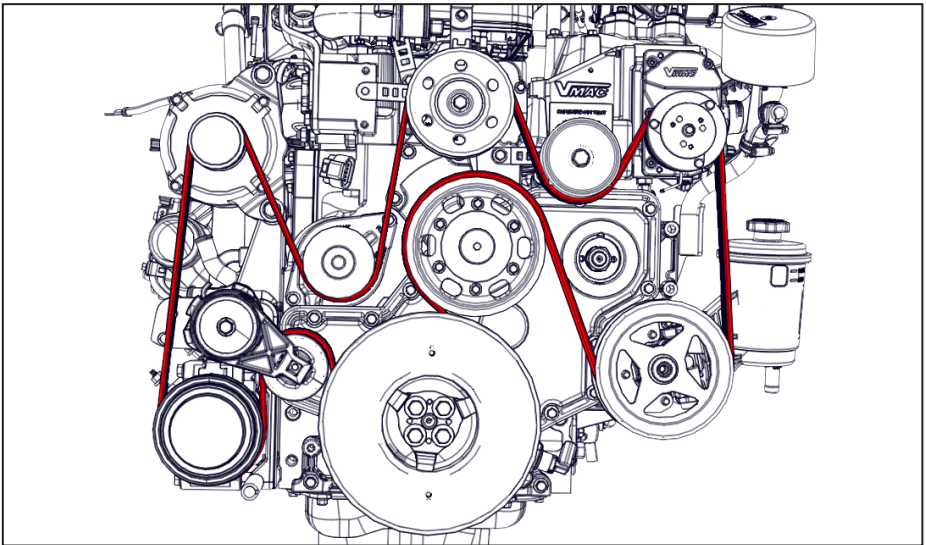

Figure 21 — Belt routing
- Install and tension the VMAC supplied FEAD belt (Figure 21).